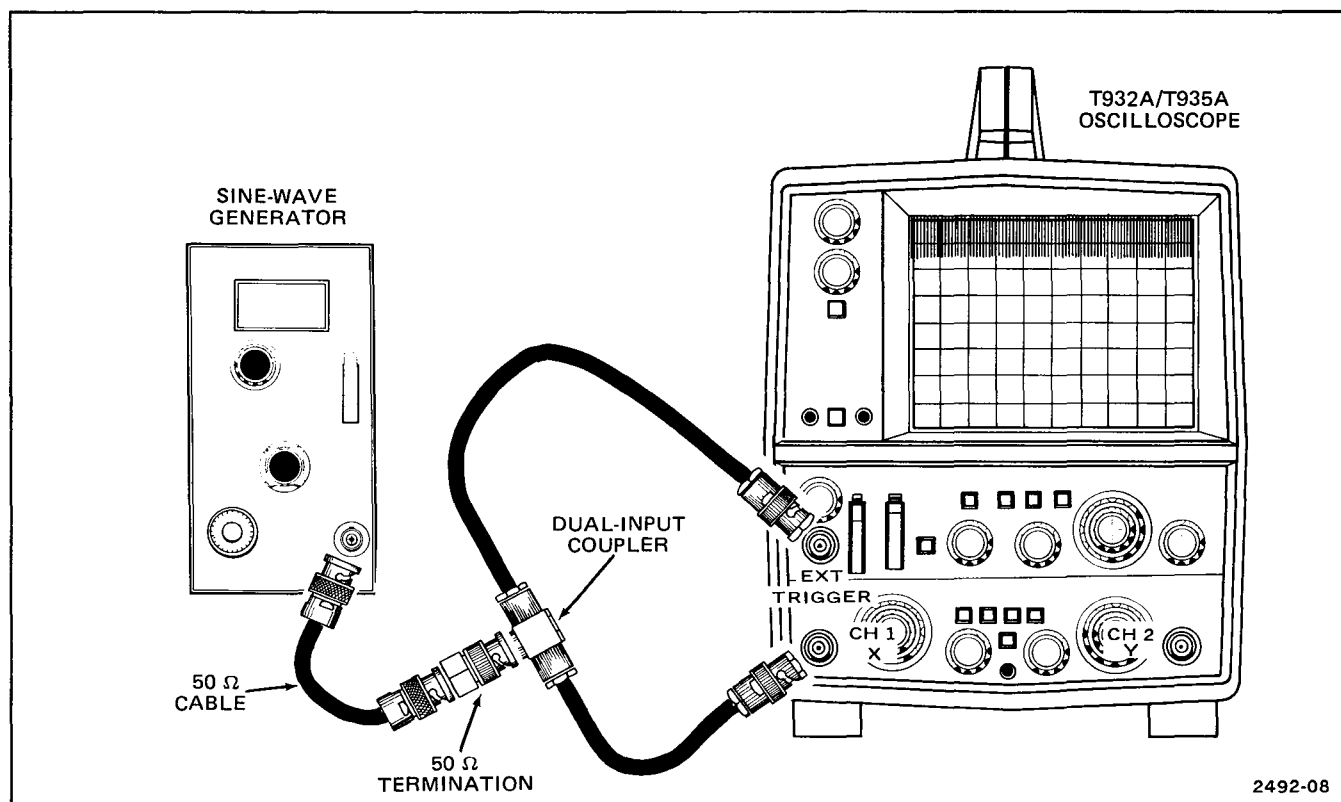

Fig. 3-3. X Gain, Triggering, and Z-axis input check test setup.
a. Connect test equipment as shown in Fig. 3-3.